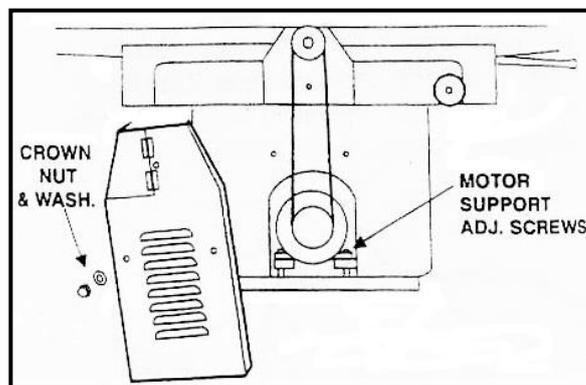

Fig. 4
Remove the three (3) crown nuts and washers on the belt guard with the 14mm wrench, and remove guard, Fig. 4. Use a 1/2" wrench to adjust the screws and nuts in the motor support. Using the adjusting slots on the motor support to raise or lower motor support to obtain proper tension.